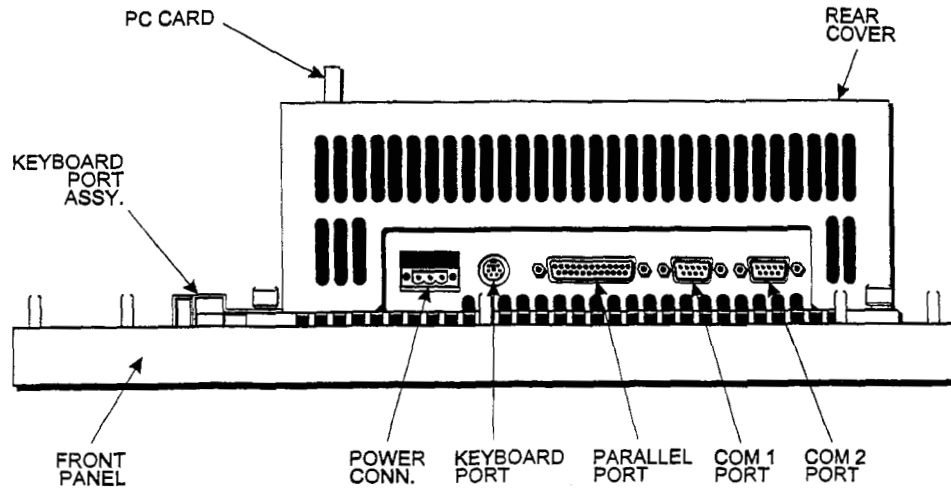

Figure 2-3. Rear/Bottom View
The 3200/3300 supports both COM1 and COM2 ports. These ports are isolated and jumper configurable. COM1 and COM2 can be configured as either RS-232 or RS-485 with on-board termination for RS-485. (Refer to Figure 2-3 for port locations, and Chapter 8 for pinouts.)
- *Figure 2-3, page 2-6 - Rear View 3200/3300*
You do not have to remove the rear cover to install the PC card (Figure 2-3).